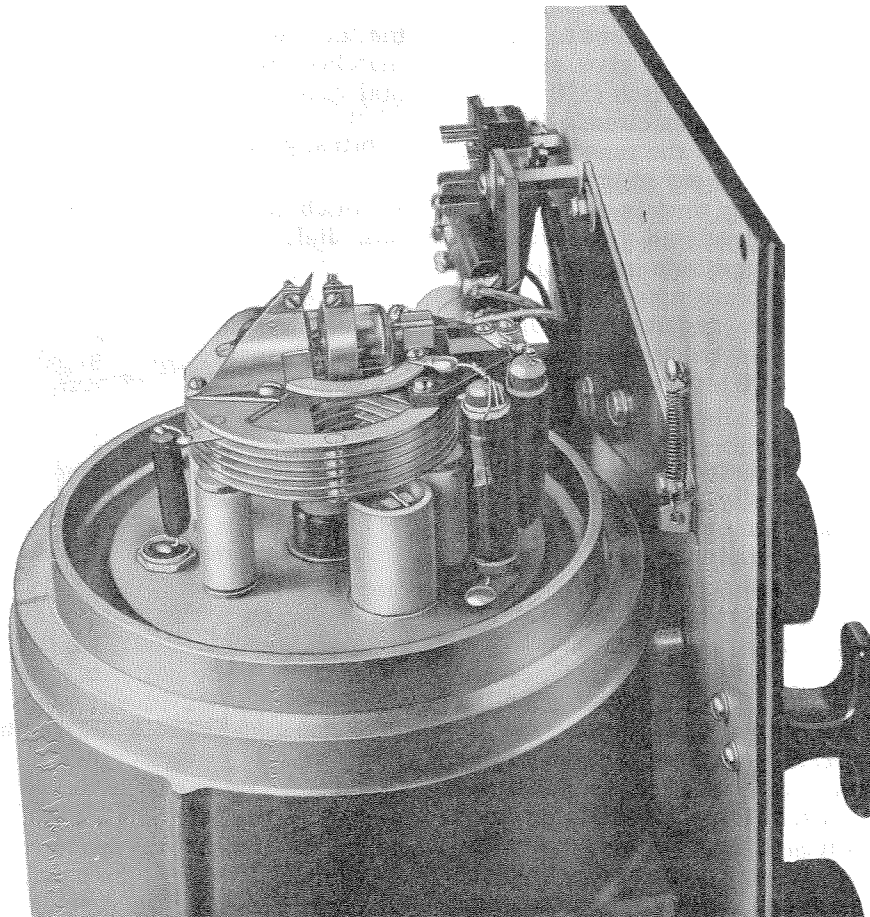

Figure 3. Type 1021-P2 U-H-F Unit, Cover Removed to Show Tube and Butterfly Circuit.
2.2.1 TYPE 1021-P2 (250-940 MC). (For schematic diagrams, see Figures 9 and 10.) The Type 1021-P2 R-F Unit is housed within two concentric shields on a cylindrical aluminum casting. The tuning unit is a 2-1/2-inch-diameter butterfly circuit (Figure 3) in which both inductance and capacitance are varied without the use of sliding contacts. The wide frequency range is covered by a rotation of about 80 degrees of the rotor.